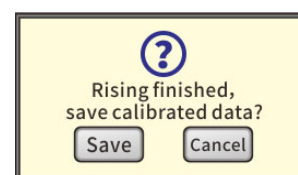

Figure 6
7. After the instrument detects the final melting-point, the device will beep automatically return to the preset starting temperature. The screen displays the correction confirmation interface, Figure 6.